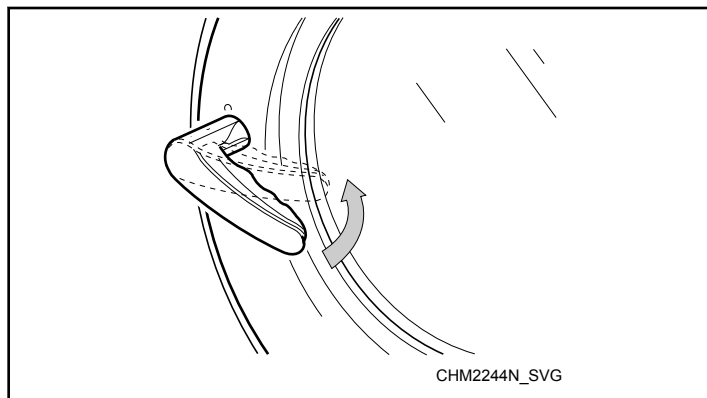

Figure 7
4. Close the door and turn handle counter clockwise. Refer to *Figure 7*.